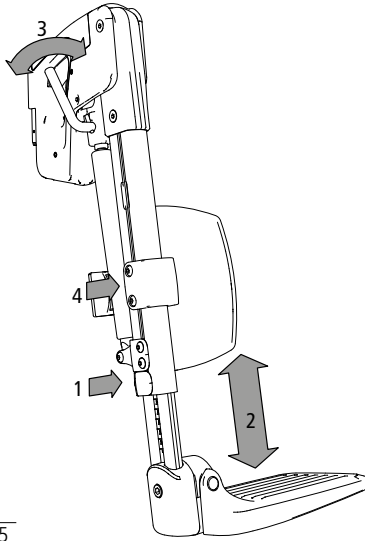

Fig. 35
1. Loosen the Allen screw (1, Fig.35) on the back.
2. Now the lower leg rest height can be adjusted (2, Fig. 35). Once the desired position has been selected, you can lock the locking screw again.
3. To change the angle of the leg rest, pull or push the lever (3, Fig. 35). The angle can be adjusted freely using a gas strut.
4. You can adjust the height of the calf pad by loosening the locking screws (4, Fig. 35) on the pad.